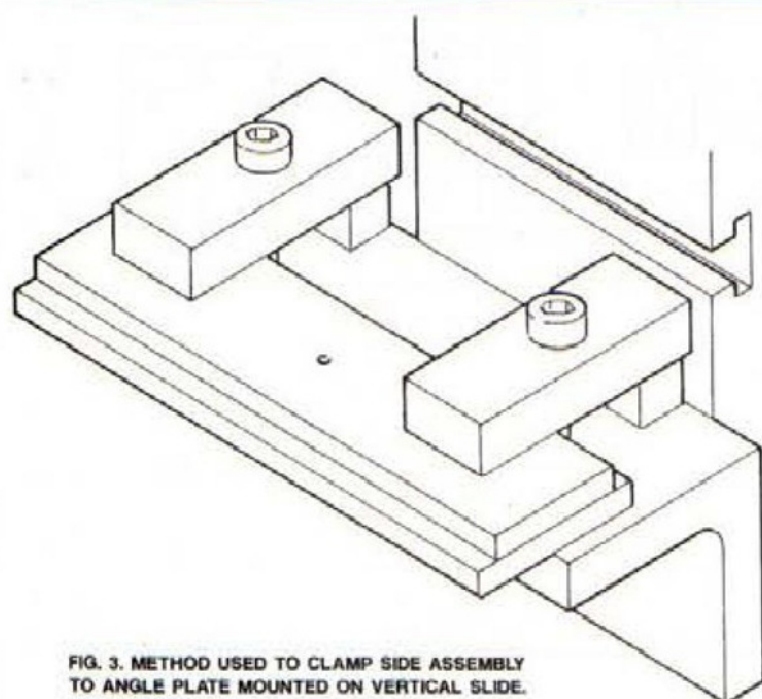

FIG. 3. METHOD USED TO CLAMP SIDE ASSEMBLY TO ANGLE PLATE MOUNTED ON VERTICAL SLIDE. (OPERATION 2.7)
2.7 Mount one side assembly on the angle plate on the vertical slide as close to perpendicular to the lathe axis as possible (**Fig. 3**).